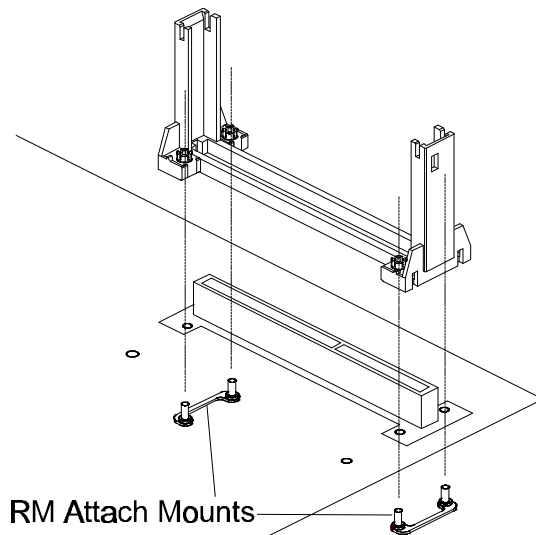
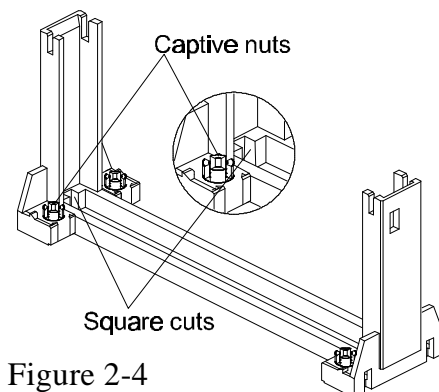

Figure 2-3
Figure 2-4
2. Install two Retention Mechanism Attach Mounts (RMAM) with Bolt/Bridge assemblies inserted up through the bottom of the mainboard. (Notice the RMAM's bridge orientation as Figure 2-3)
3. Insert the Retention Mechanism (RM) around the Slot 1. Be sure the Square Cut Mark of RM (Refer to Figure 2-4) have the same orientation of Slot 1 pin 1. (Refer to Figure 2-3)
4. Screw the four captive nuts (Refer to Figure 2-4) on the RM by a screw driver to secure RM to two RMAMs.